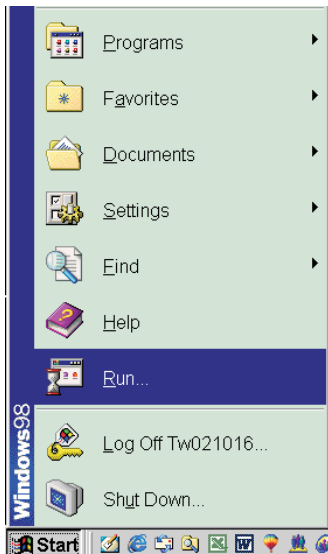

Fig. 5
2. Click **Start**, choose Run at start menu of Windows as shown in Fig. 5.